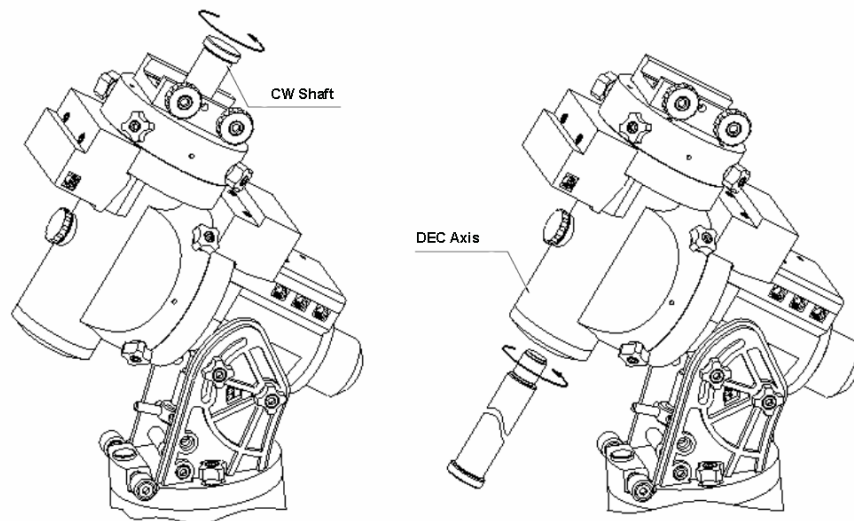

Figure 7
4. **Attach counterweight (CW) shaft:** Unscrew the CW shaft from the top of the mount (Figure 7 left) and thread it into the opening of the DEC axis (Figure 7 right).